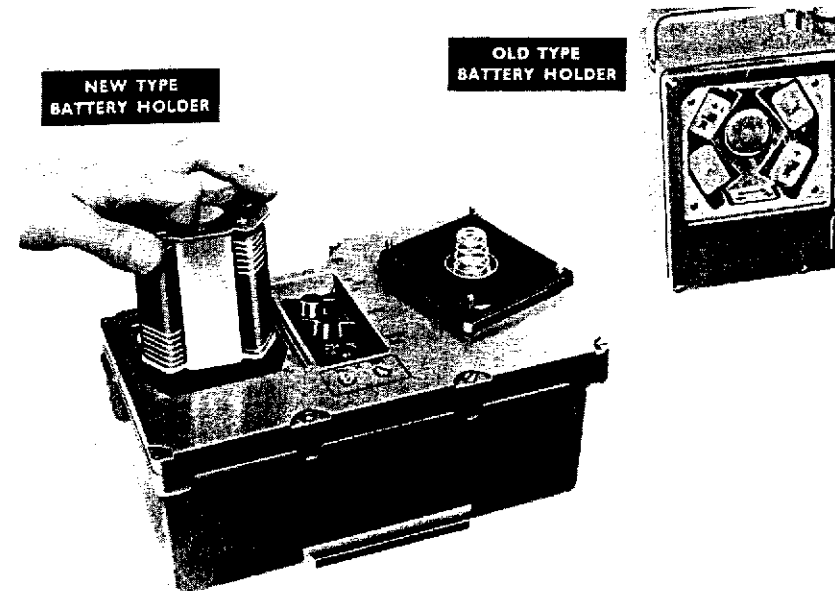

Fig. 7
(1) Remove the instrument from its haversack and lay it on its side with the controls uppermost. Remove the battery cover by slackening the four fixing screws.
(2) Two types of battery holder are in service, as shown in Fig. 7. If the instrument has the old type holder and batteries are already fitted, remove each battery in turn, but do not remove the holder.